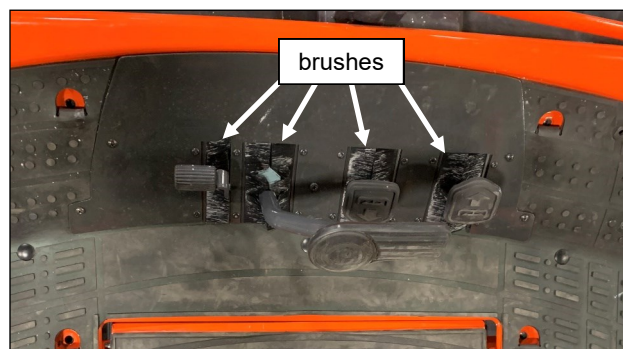

Fig. 4.5 (Install Sealing Brushes)
- 4.5 See fig. 4.5. Install the pedal seal panel on top of the floormat as shown. Secure to the floorpan